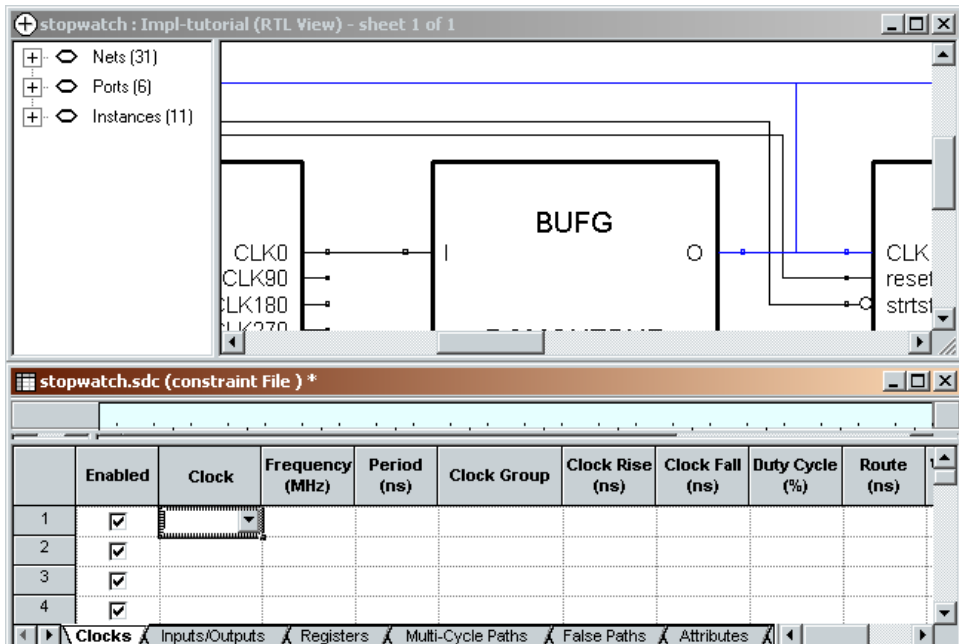

Figure 1-21 Setting a Clock Constraint in SCOPE
5. Locate the clock net that exits from the BUFG. See Figure 1-21.